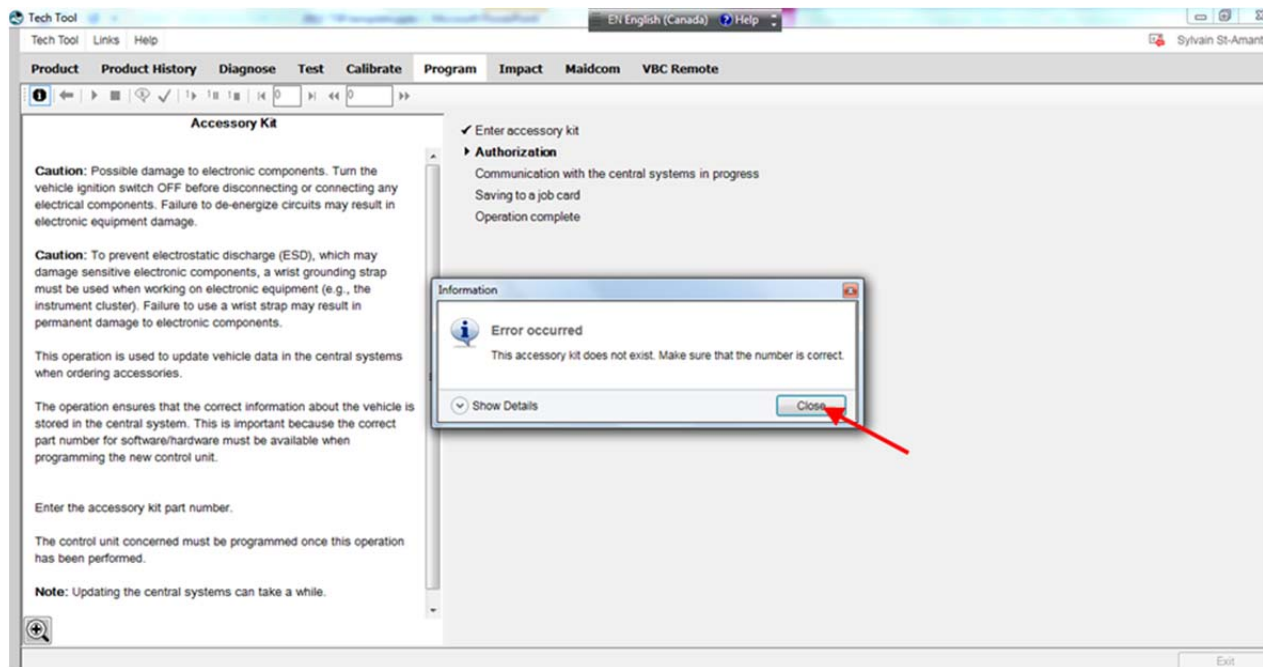

FIGURE 18
6. If this pop up appears, click CLOSE (FIGURE 18).